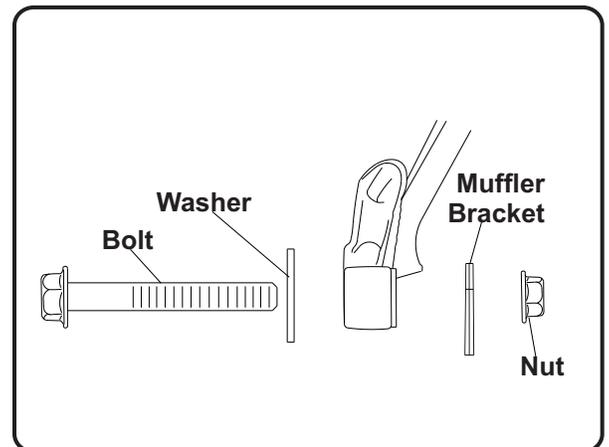

Fig. 6
- Using OEM muffler hanger hardware, secure Yoshimura muffler hanger to left passenger peg. ( Fig. 6 )
*If any problem is found, please carefully follow through the installation steps again. If problem still persists, please call Yoshimura technical department at (800) 634-9166 / in CA (909) 628-4722 .*